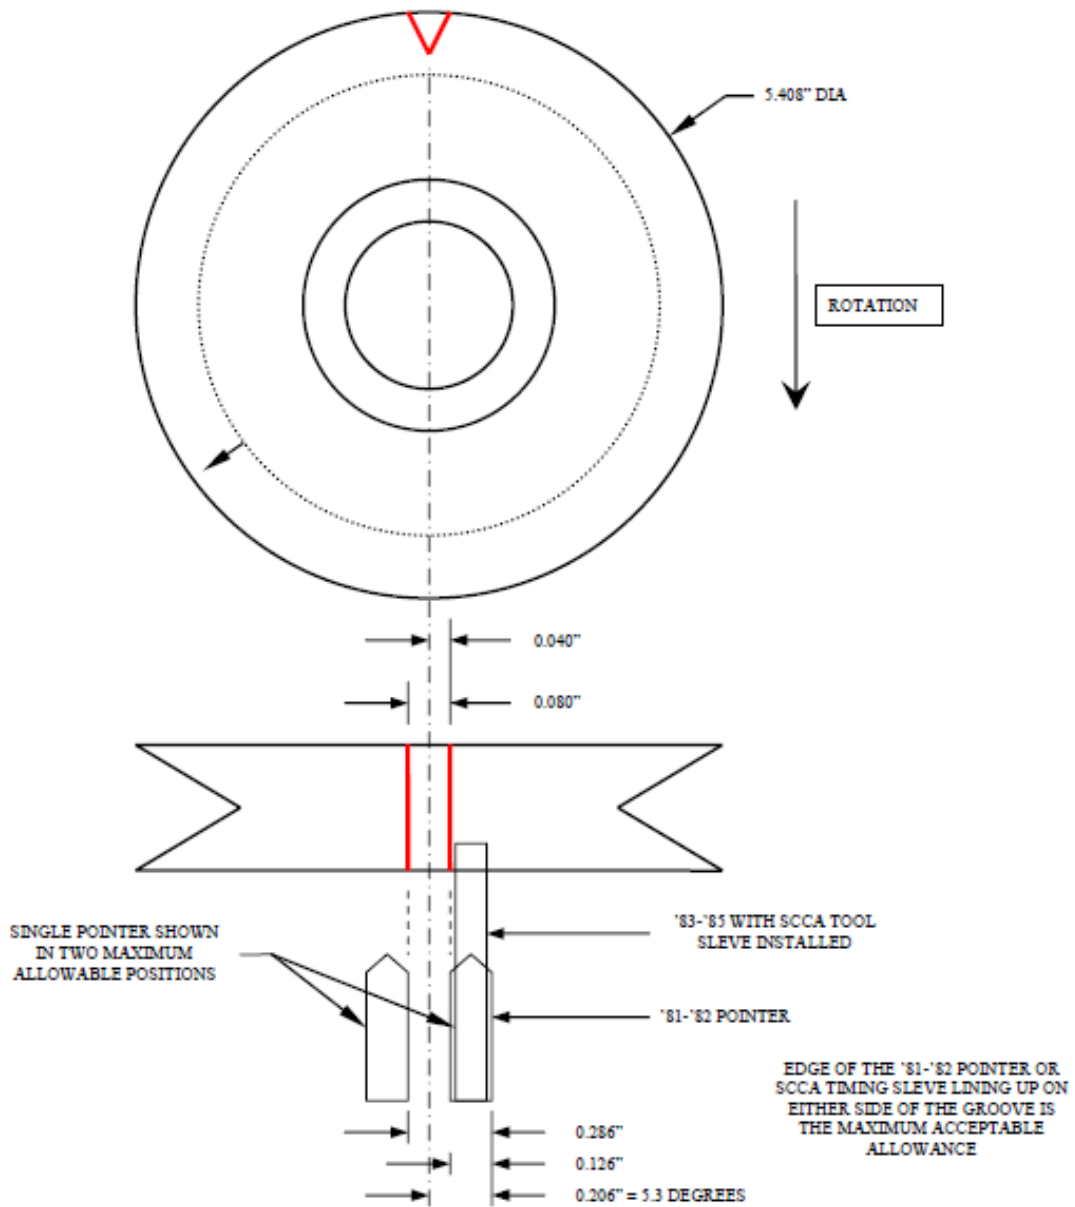

Figure 1: Ignition Timing Diagram
4. Ignition timing shall be stock (per manufacturer's specifications). See the Ignition Timing Diagram, figure 1.